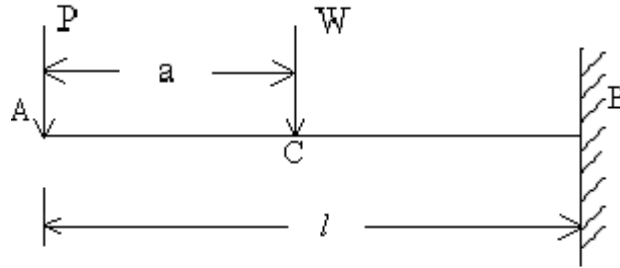

Figure 6
6. For a cantilever of length L and loaded with a point load P at its free end as shown in figure 6, the deflection equation (with  $x=0$  at the free end) is given as  $y = -(P/6EI)(2L^3 - 3L^2x + x^3)$ . Use the Maxwell reciprocal theorem to determine